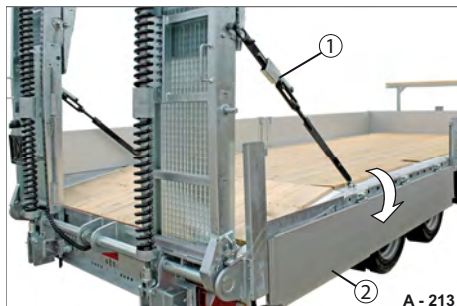

Fig. 48 Open the platform gate
► Unlock (if fitted) the platform gate (Fig. 48/2) and carefully fold it down - see page 172.